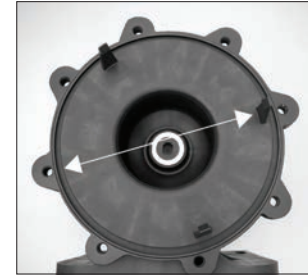

Figure 43A
- Install the barrier (item 11) into the clamp ring (item 12B). Line up the prong that has no prong opposite it with the 2 o'clock housing bolt hole in the clamp ring. See figure 43A. NOTE: Leave the barrier loose in the clamp until installing the housing (item 1) to make sure the bolt holes line up.